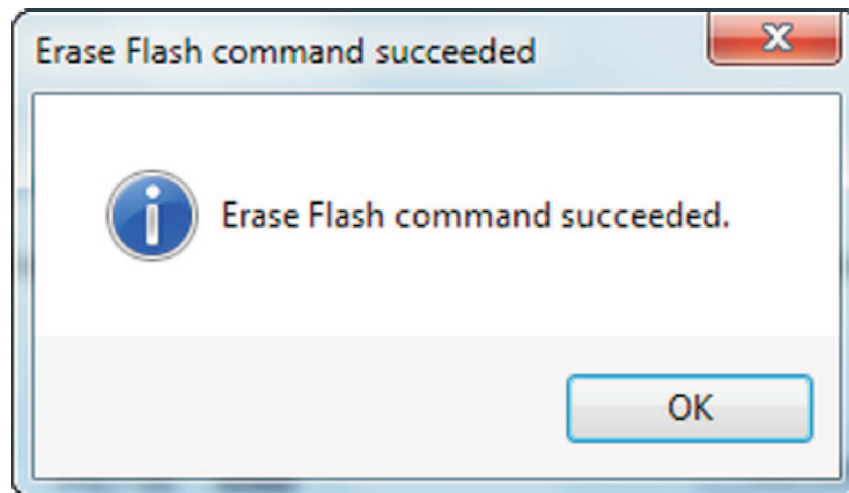

Figure 4-14. Erase Flash Command Succeeded
- Click on “OK” after the erase flash command succeeded (see Figure 4-14).
- Click on “OK” after the erase flash command succeeds (see Figure 4-14).